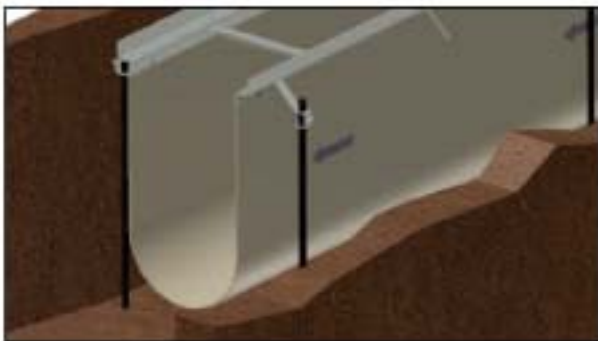

Figure 7.4
- Place the deepest channel at the desired location. Place #4 or #5 rebar through the frame brackets and drive into the ground until secure. See Fig. 7.4